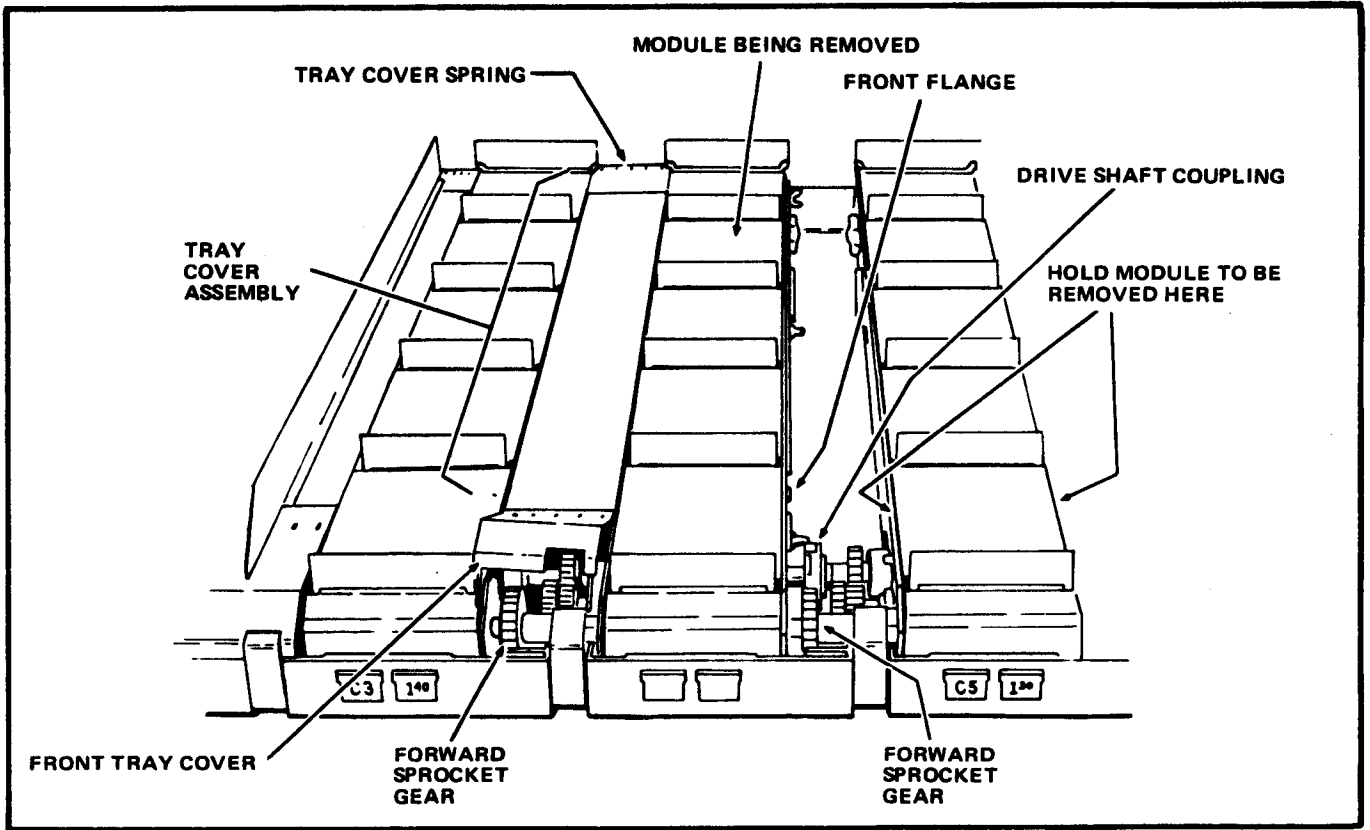

FIGURE 3
- a. Push up and back on the front of the Front Tray Cover. See Figure 3.
- b. Push the Front Tray Cover back, lift up, then pull forward so that the Tray Cover Assembly will slide over the Front Flange on the Module. See Figure 3.
8. If the Module to be removed is linked to either the Module to its left or the Module to its right, slide the Forward Sprocket Gears all the way to the right. See Figure 3.
9. Grasp the Module being removed in the locations shown in Figure 3.
24. Turn the Drive Shaft Coupling Bar to the vertical position on both the Module removed from the Food Tray in Step A-10 and the Module in the Food Tray located to the immediate left of the removed Module. See Figure 3.
27. If the Module inserted is to be linked to the Module to the left, push the Forward Sprocket Gear on the inserted Module against the Module to the left. See Figure 3.
28. If the Module inserted is to be linked to the Module to the right, push the Forward Sprocket Gear on the Module to the right against the inserted Module. See Figure 3.